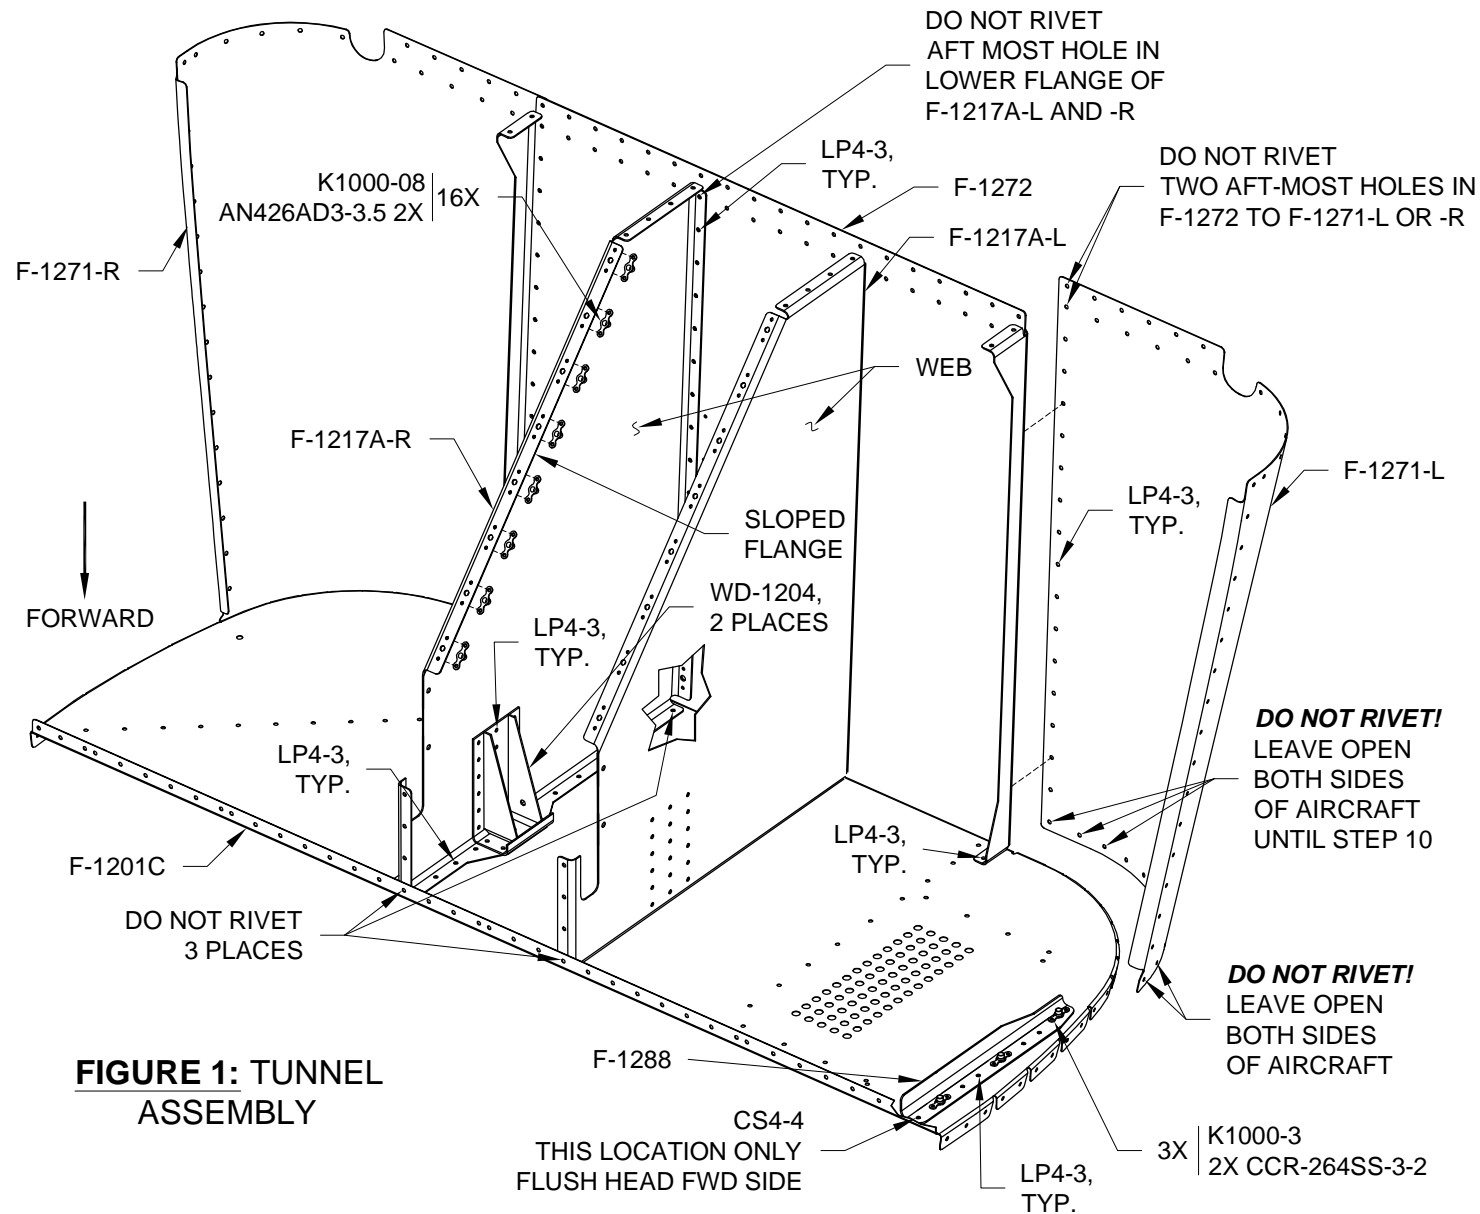

FIGURE 1: TUNNEL ASSEMBLY
Step 2: Machine countersink the nutplate attach holes in the sloped upper flange of the F-1217A-L & -R Tunnel Ribs as shown in Figure 1. Machine countersink all the nutplate attach holes in the F-1272 Fwd Fuse Skin flush on the bottom side. See Figure 4. Machine countersink the upper most hole in the F-1288 Cooler Stiffener. See Figure 1.
Step 3: Rivet nutplates to the F-1217A-L & -R Tunnel Ribs and F-1201C Firewall Bottom per the callouts in Figure 1 and Figure 4.
Step 4: Cleco, final-drill #30, the WD-1204 Engine Mount Brackets to the F-1217A-L & -R Tunnel Ribs as shown in Figure 1. Rivet the engine mount brackets to the web of the tunnel ribs (not the fwd flange, installed from bottom side).
Step 6: Cleco then rivet, the F-1217A-L & -R Tunnel Ribs to the F-1272 Fwd Fuse Skin (Do not rivet the aft most hole!). To this assembly cleco then rivet the F-1201C Firewall Bottom & F-1271-L and -R Fwd Fuse Corner Skin to create the Fwd Lower Fuse Assembly (Do not rivet the locations labeled "DO NOT RIVET" in Figure 1).
Step 8: Rivet the F-1288 Cooler Stiffener and corresponding nutplates to the firewall bottom. See Figure 1 and Figure 4.